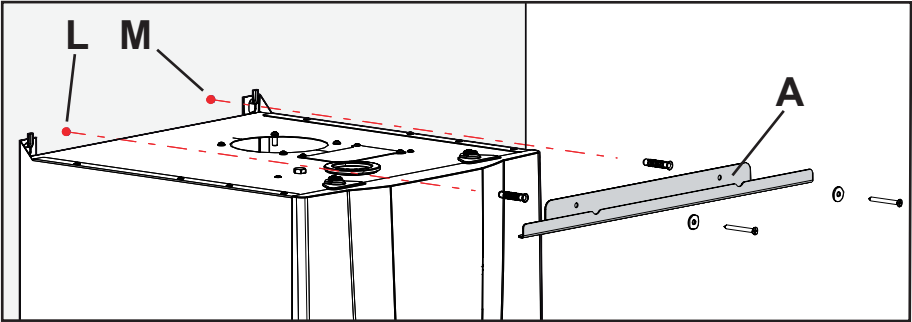

Figure 5-28
- 3 - Fasten upper fixing bracket "A" to the wall, using the dowels supplied in the kit, as shown in figure 5-28;